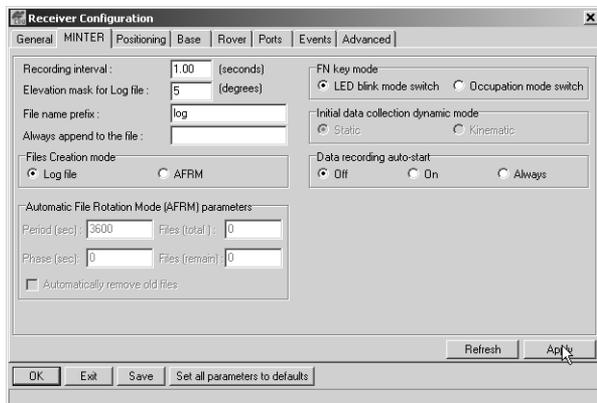

Figure 3-7. Configuration->Receiver->MINTER
2. Open PC-CDU, click **Configuration->Receiver** ->**MINTER** and specify the following parameters, then click **Apply** (Figure 3-7 on page 3-12):